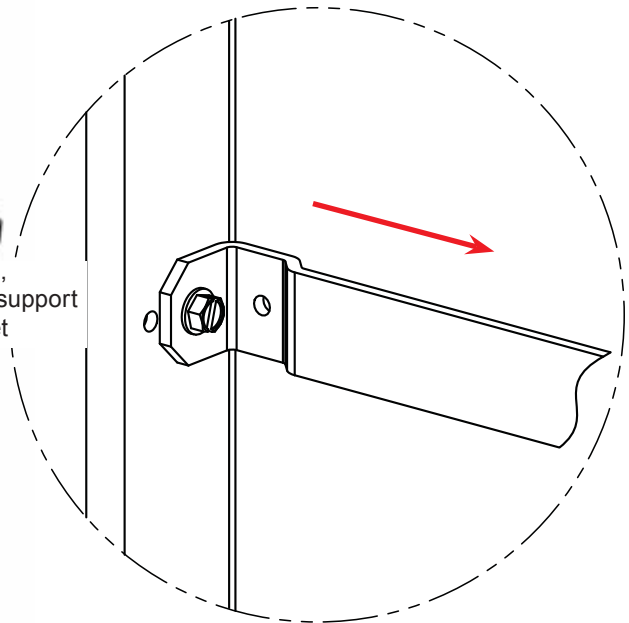

Figure 19 — Removal of middle, cover-support bracket
2. Remove the middle, cover-support bracket (Figure 19) on the adjacent edges of EACH bay to make room for the inter-bay bus work.
2. Replace the covers and attach them to the cover support brackets (see Figure 19).